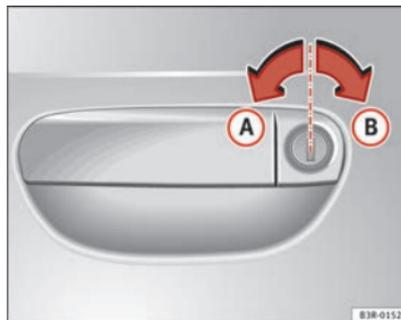

Fig. 71 Turning the key to enable the open and close functions
- To unlock the vehicle, turn the key in the driver door to position **A** ⇒ Fig. 71.
- To lock the vehicle, turn the key in the driver door to position **B** ⇒ Fig. 71 ⇒ . ▶
To do so, turn the key in the driver door **twice** in quick succession to position **B** ⇒ Fig. 71.